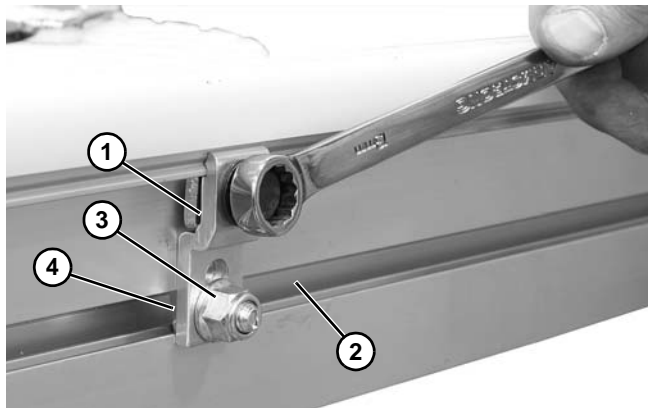

Figure 85
- Install clip assembly (**Figure 85, item 1**) into side rail channel (**Figure 85, item 2**). The end clips should be no greater than 12" from the end of the conveyor.
Make sure that the studs (Figure 85, item 4) rotate inside the channel and engage with the conveyor.
- Fasten clip (**Figure 85, item 1**) to conveyor with nut (**Figure 85, item 3**) on stud.